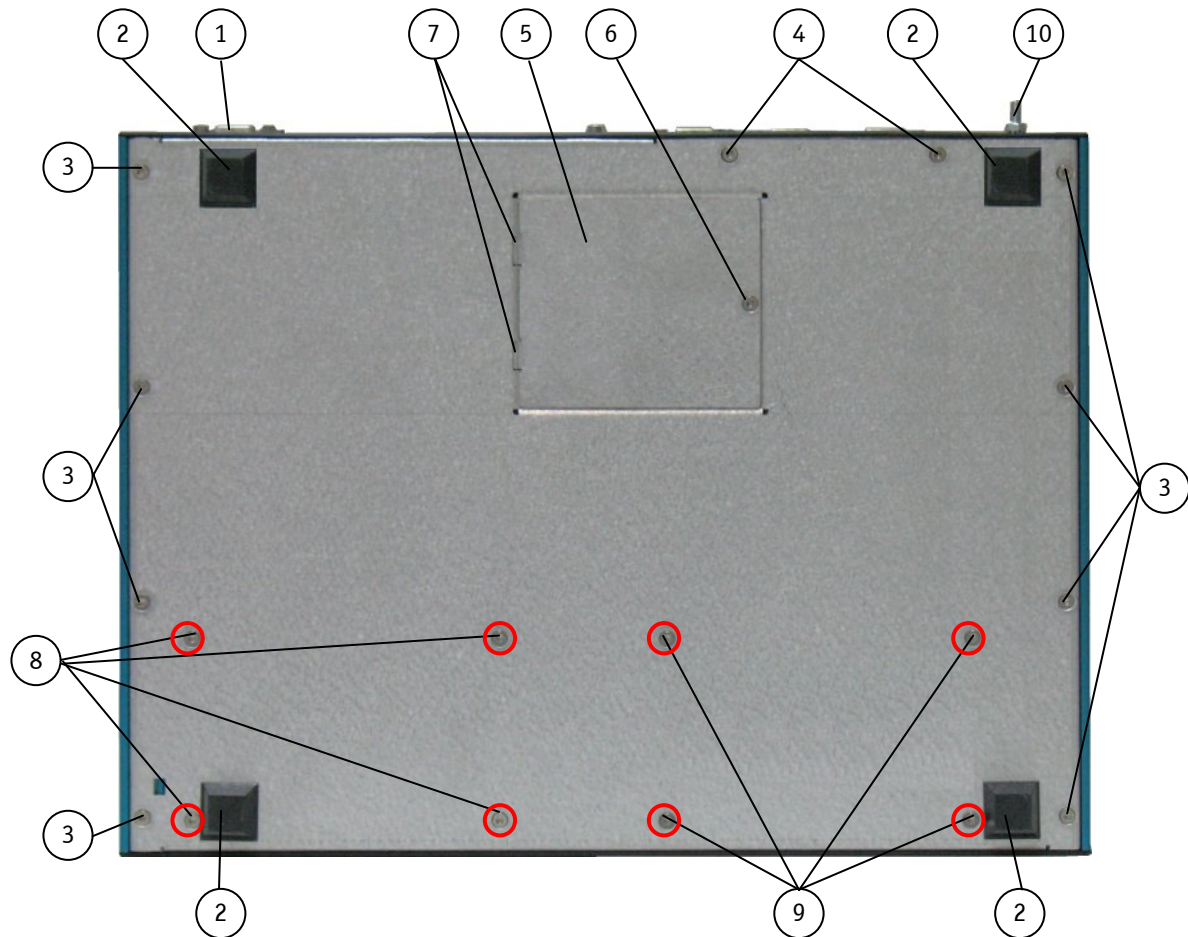

Fig. 18: Bottom side with CF slot access cover
During operation, the CF slot access cover must be closed and secured with the torx screw (Fig. 18, pos. 6).
Do not loosen or remove the four torx screws (Fig. 18, pos. 8 and 9) that secure the optional internal HDDs to the chassis.
It is allowed to loosen and remove the eight screws (Fig. 18, pos. 3), only if you attempt to mount the mounting brackets (refer to the chapter 10.1 "Wall or Table Mount using the Brackets").
- ☐ up two internal 2.5" SATA HDD (only factory installing is possible) secured to the bottom side of the unit with the screws (Fig. 18, pos 8 and 9)
- ☐ a CompactFlash™ card (IDE) (type I or II) that can be accessed from the bottom side via the removable cover (Fig. 18, pos. 5).
2. Loosen the torx screw (Fig. 18, pos. 6 and Fig. 22) that secures the CF slot access cover (Fig. 18, pos. 5) to the chassis. Use a TX10 screw driver. Retain the screw for later use.
5. Insert the laces of the CF card access cover (Fig. 18, pos. 7) into the centering slot of the chassis (Fig. 24 and Fig. 25). Secure the CF slot access cover with the retained screw (see step 2).